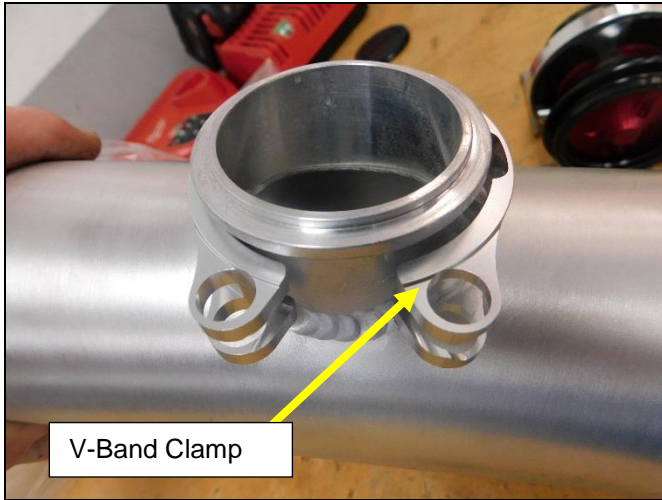

Figure 26
1. Remove the V-band clamp from the blow off valve and install it on to the intake pipe (**Figure 26**).